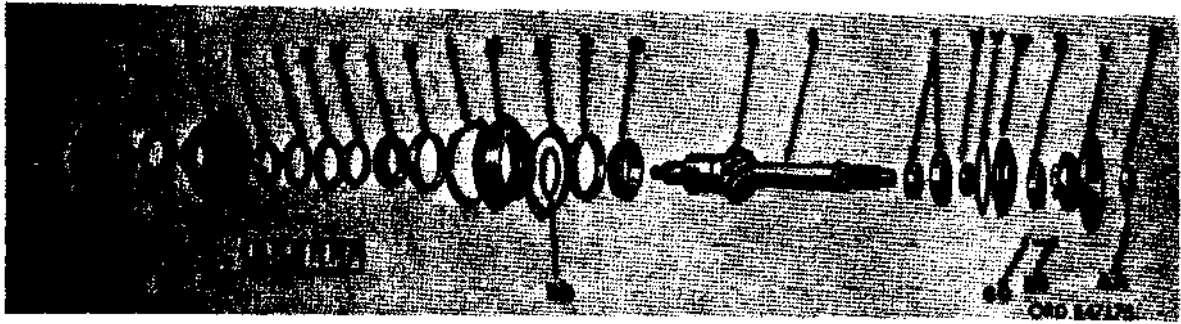

Figure 385. Hypoid drive pinion - exploded view
- (j) Using a punch, drive the hypoid pinion oil seals (E and X) from front and rear hypoid pinion front and rear bearing cage covers (D and W). Refer to figure 385.
- (k) Using a soft hammer, tap lightly on end of hypoid pinion drive shaft (S) opposite hypoid pinion outer bearing cage (M) and remove shaft from carrier assembly (F, fig. 383). Remove hypoid pinion cage shims (N). Tie shims to hypoid pinion front bearing cage cover (D) to facilitate correct assembly and assist in securing correct pinion setting. Refer to figure 385.
- (l) Using remover and replacer 5120-795-0079, drive rear hypoid pinion bearing (T) from carrier. Remove hypoid pinion bearing inner race from hypoid pinion drive shaft (S). Refer to figure 385.
- (m) Place hypoid pinion drive shaft (S) in vise (equipped with soft jaws) and remove outer hypoid-bearing adjusting nut (F), hypoid pinion bearing adjusting nut washer (G), and inner hypoid pinion-bearing adjusting nut (H). Using a soft hammer tap lightly on hypoid pinion outer bearing cage (M) to remove hypoid pinion outer bearing cone (J) from shaft and permit removal of bearing cage from shaft. Remove hypoid pinion bearing spacer (DD). Pull hypoid pinion inner bearing cone (Q) from shaft, using a suitable puller. Refer to figure 385.
- (n) Using bearing remover and replacer 5120-795-0159, press hypoid pinion outer bearing cup (K) from hypoid pinion outer bearing cage (M). Use a small punch to dislodge hypoid pinion inner bearing cup (P) from its seat in cage. This will permit full contact between bearing cup and the shoulders on bearing remover. Complete disassembly of pinion bearing cage by pressing inner cup from cage with remover. Refer to figure 385.
- (o) Support hypoid drive pinion (R) firmly on arbor press and press hypoid pinion drive shaft (S) from pinion. Remove key from shaft. Refer to figure 385.